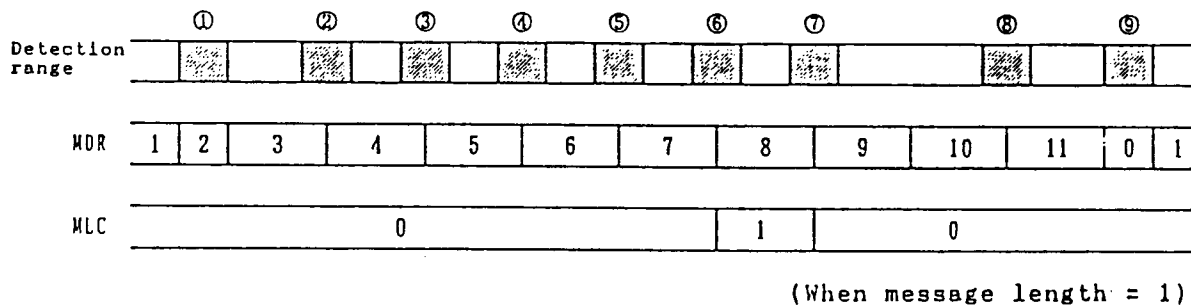

Figure 3.2 Start bit detect position
- ① in Figure 3.2 is the period when the state counter is "2"
- ② through ⑧ in Figure 3.2 is the $-13\ \mu\text{s}$ and $+26\ \mu\text{s}$ period where the start bit should have been positioned
- ⑨ in Figure 3.2 is the period when the state counter is "0"
(for ② through ⑧ in Figure 3.2)